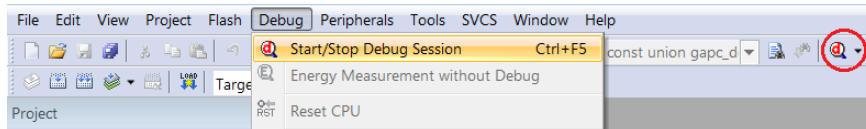

Figure 24. Start/Stop Debug Session Icon
2. Select **Debug > Start/Stop Debug Session** or click the icon shown in Figure 24.